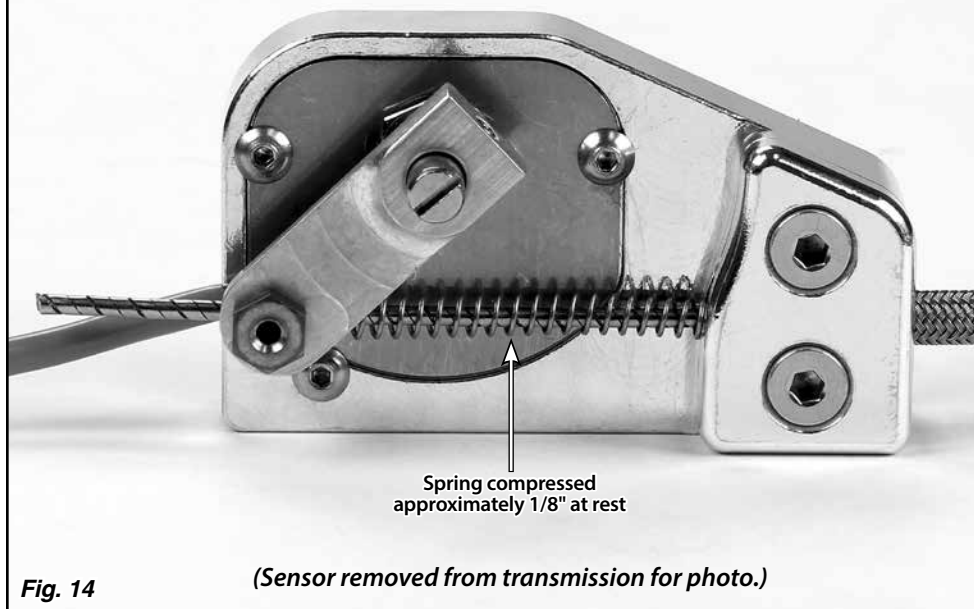

Fig. 14
- **All applications with the trans arm pointing UP:** Push the sensor arm up against the spring, so the spring is compressed approximately 1/8" at rest in Park. **Fig. 14** While holding that position, tighten the set screw in the index cable stop on the sensor arm using a 1/16" Allen wrench.